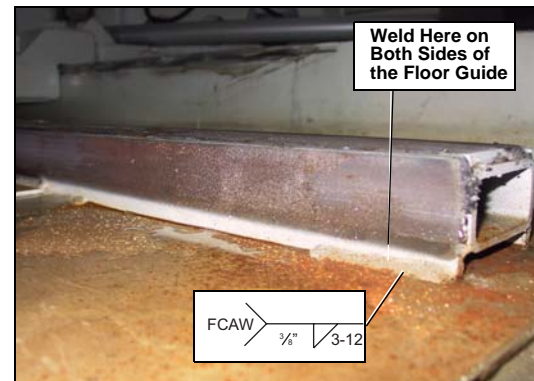

Figure 71. Floor guide end-view
18. *Slowly* retract the packer under the rails until the end of the packer stroke. Keep the packer centered with the hopper, re-install the side rails then tack the floor guides to the hopper floor (see Figure 71. “Floor guide end-view”).